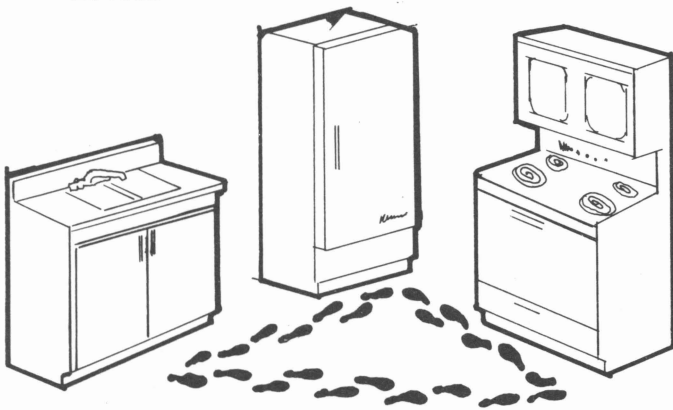

Figure 6. Work triangle.
2. Use ¼-inch graph paper, and scale the plan. Figure 6 shows a floor and wall elevation plan ready to use.